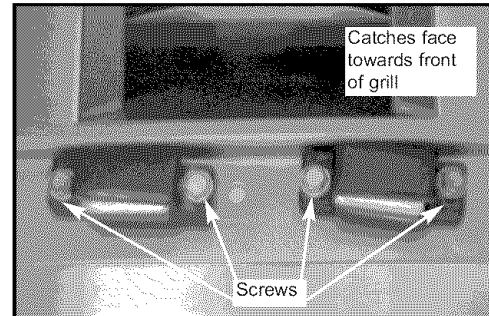

Fig. 6
2. Using 2 self tapping hex head screws, attach the magnetic door catch in the 2 holes in the bottom of the grill. (Repeat for second door catch) (See Fig. 6)